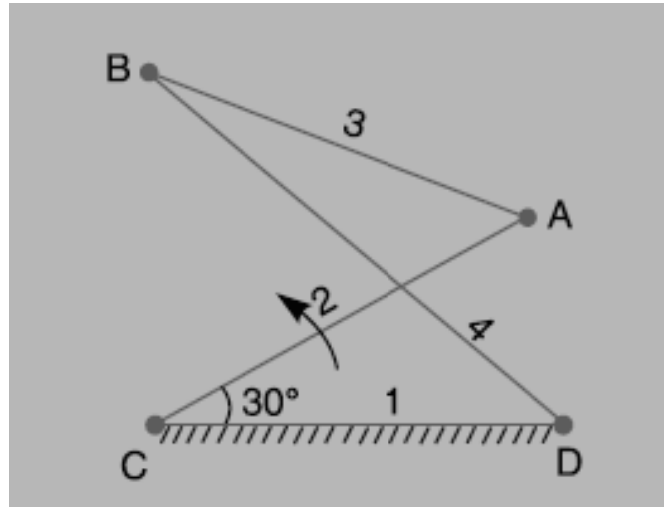

Fig.2
- b. Locate all the instantaneous centers for the crossed four bar mechanism as shown in Fig.2. The dimensions of various links are:  $CD = 65$  mm;  $CA = 60$  mm;  $DB = 80$  mm; and  $AB = 55$  mm. Find the angular velocities of the links  $AB$  and  $DB$ , if the crank  $CA$  rotates at 100 r.p.m. in the anticlockwise direction.